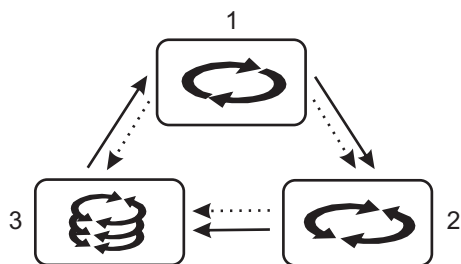

Fig.1. Innovative mixing cycle
- all three in one cycle (1 → 2 → 3) (Fig. 1).